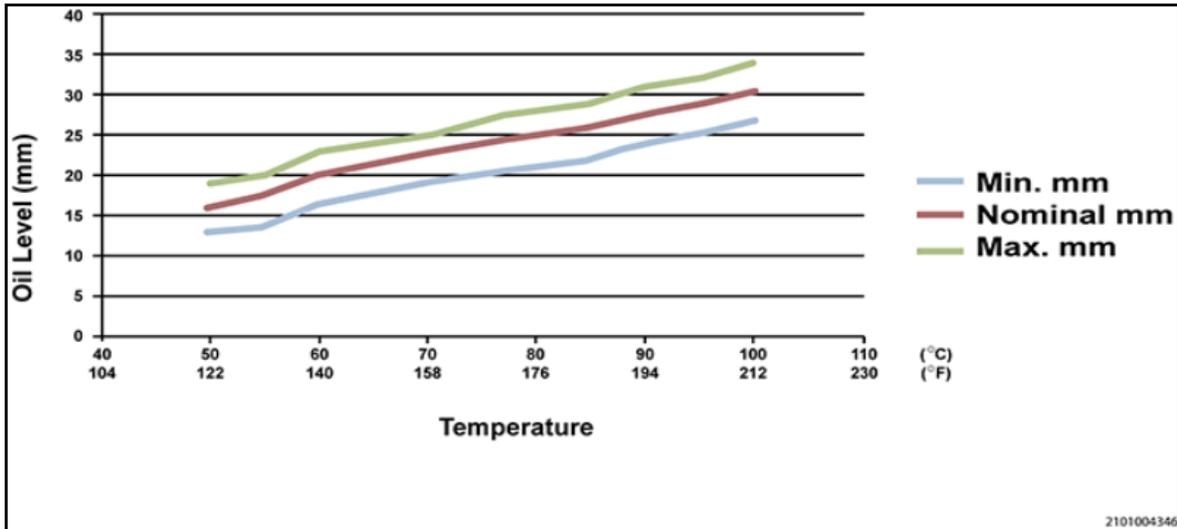

Figure 19 – Temperature Chart
53. Based on the temperature of the fluid and the measurement on the tool, refer to the graph or the table to determine the proper level (Figures 19 and 20).